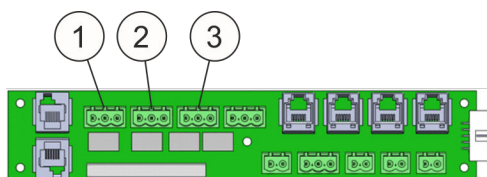

Fig. 77: Connecting terminals
- Connecting terminal for relay output "Pre-alarm" (Fig. 77/1)
- Connecting terminal for relay output "Fire alarm" (Fig. 77/2)
- Connecting terminal for relay output "Extinguishing" (Fig. 77/3)